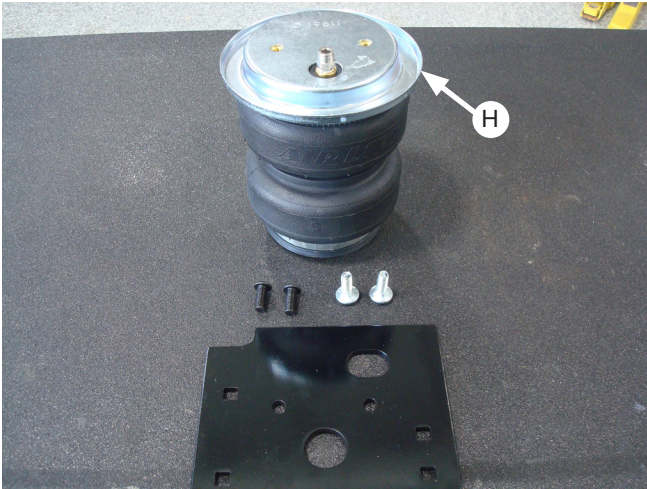
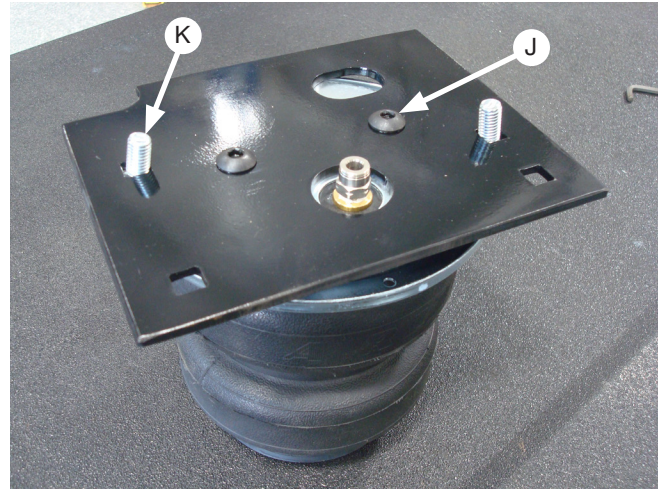

Fig. 12
Fig. 13
- Place a roll plate (H) on top of the air spring (Fig. 12). Place two 1" carriage bolts (K) into the upper spring plate (D) (Fig. 13) then screw the plate to the air spring with two button head screws (J). Torque to no more than 20 lb.-ft. (27Nm).